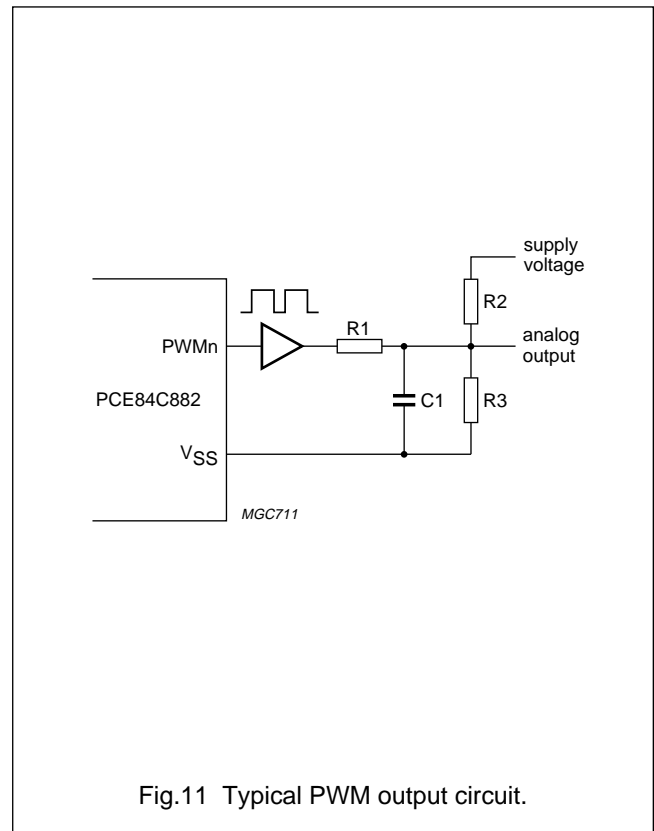

Fig.11 Typical PWM output circuit.
A typical PWM application is shown in Fig.11. The buffer is used to reduce jitter on the OSD. R1 and C1 form the integration network the time constant of which should be at least 5 times greater than the repetition period of the PWM output pattern. In order to smooth a changing PWM output a high value of C1 should be chosen. The value of C1 will normally be in the range 1 to 10 μF. The potential divider chain formed by R2 and R3 is used only when the output voltage is to be offset. The output voltages for this application are calculated using Equations (1) and (2).